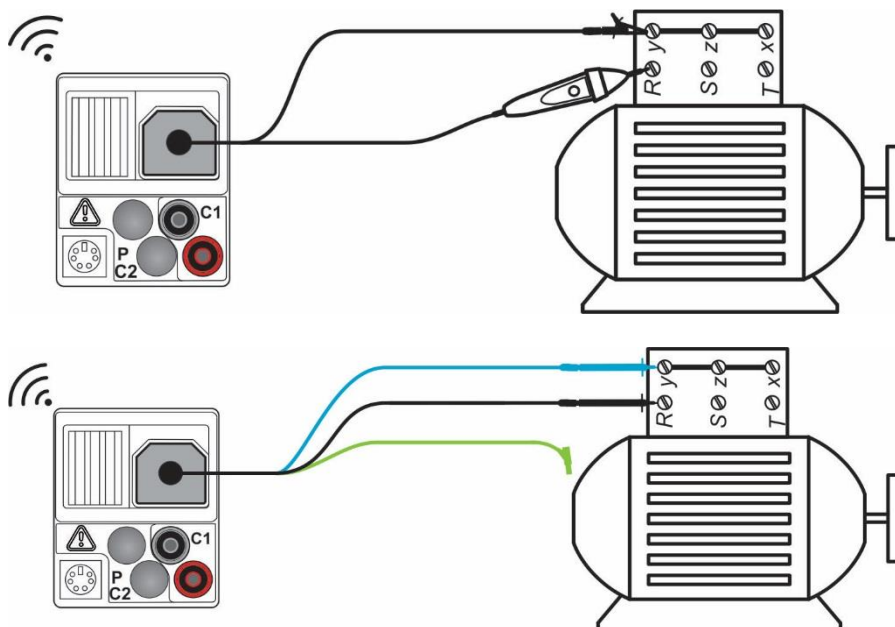

Figure 5.14: Tip commander and 3-wire test lead applications
- Connect** test leads to the tested object (see Figure 5.14).